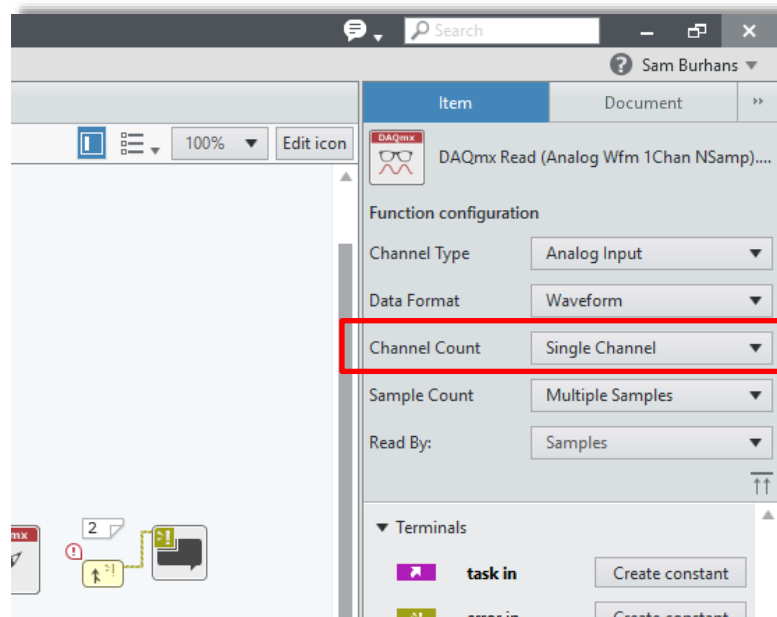

Figure 5-18 Select a single channel of waveform measurement to read from the supplied strain gage.
31. After the task is started, the *DAQmx Read VI* pulls data off the DAQ device buffer. Like the DAQmx Create Channel VI, the DAQmx Read VI is polymorphic. To configure this VI to read a data from the strain gage, click the VI and observe the settings available in the **Configuration Pane**. Set the function configuration settings as shown in Figure 5-18.